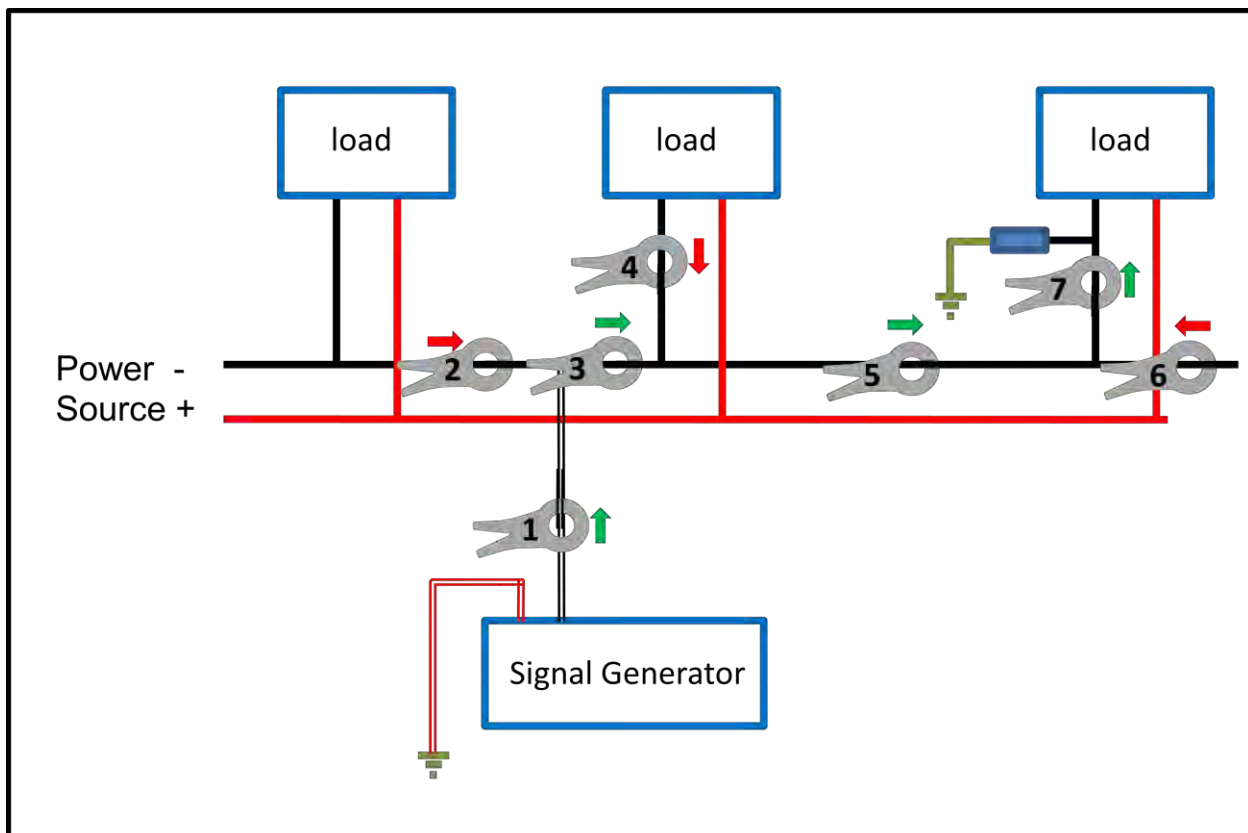

Figure 2-1 Tracing a Ground Fault
The fault is traced by following the current from the signal generator through the wiring system until the faulty branch is located. Figure 2-1 shows how a fault can be traced by moving the clamp by following the green arrow, until the faulty branch is isolated.
In Figure 2-1, at the first clamp position (1) the arrow on the display indicates that the current flow – and therefore the fault current, is present in this branch of the circuit. Therefore the clamp is moved to the next position (2). Here the arrow indicates the fault current isn't present here, so clamp is moved to position (3) and so on until the faulty branch is isolated at position 7. It is not necessary to separate positive and negative cables; the clamp may be placed around several cables during the fault tracing process.